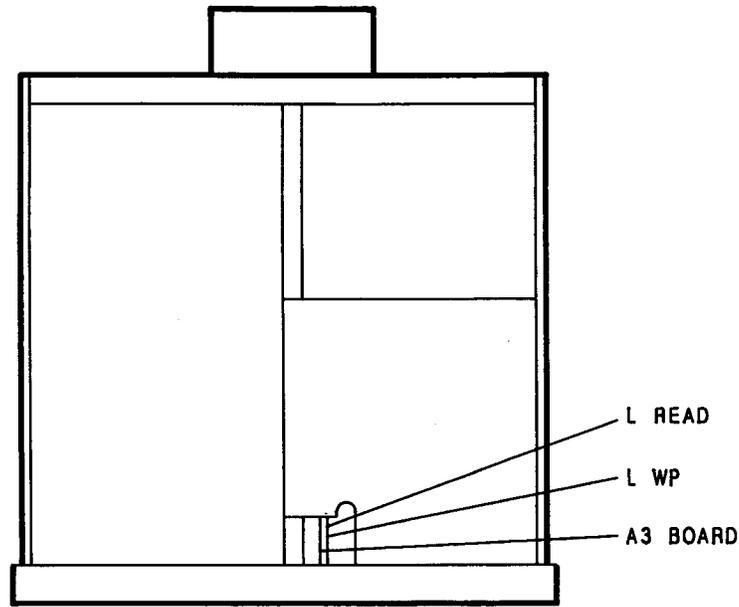

Figure 3-3. Location of HP 8757A Test Points L WP and L READ
- Refer to Figure 3-3 and **carefully** use a jumper to connect test point L WP (A3TP1) to L READ (A3TP2) of the HP 8757A when prompted. To minimize the possibility of data loss, first connect the jumper to L WP and then L READ. Use caution, do not short either test point to ground. Shorting either test point to ground may necessitate cycling the HP 8757A power switch to return to an operational state.